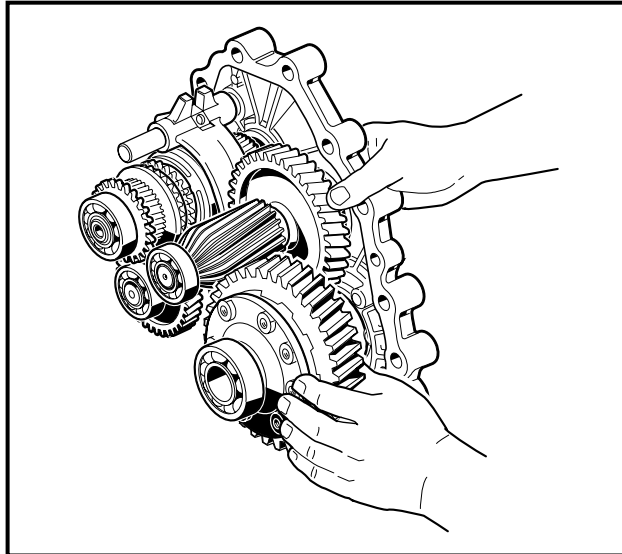

Figure 7-6 Loosen Gears
- Turn the case section containing the gearing on edge as shown (**Figure 7-6, Page 7-5**). While holding it in this position, gently rock all the gear assemblies to slightly loosen them in their seating. **See following CAUTION.**